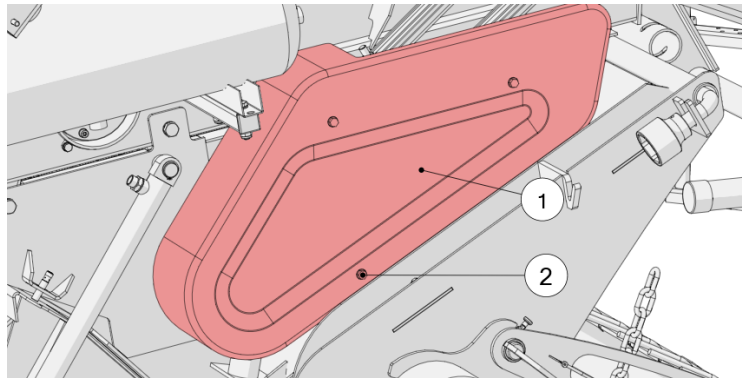

Figure 17. Right rotor guard
- Remove the right-hand side rotor guard (1) by loosening the bolts (2) as shown in Figure 17